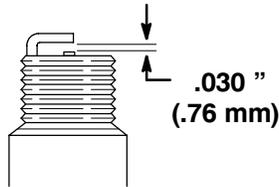

Figure 18
- Set the air gap between the spark plug electrodes at .030 inch (.76 mm) (Fig. 18).